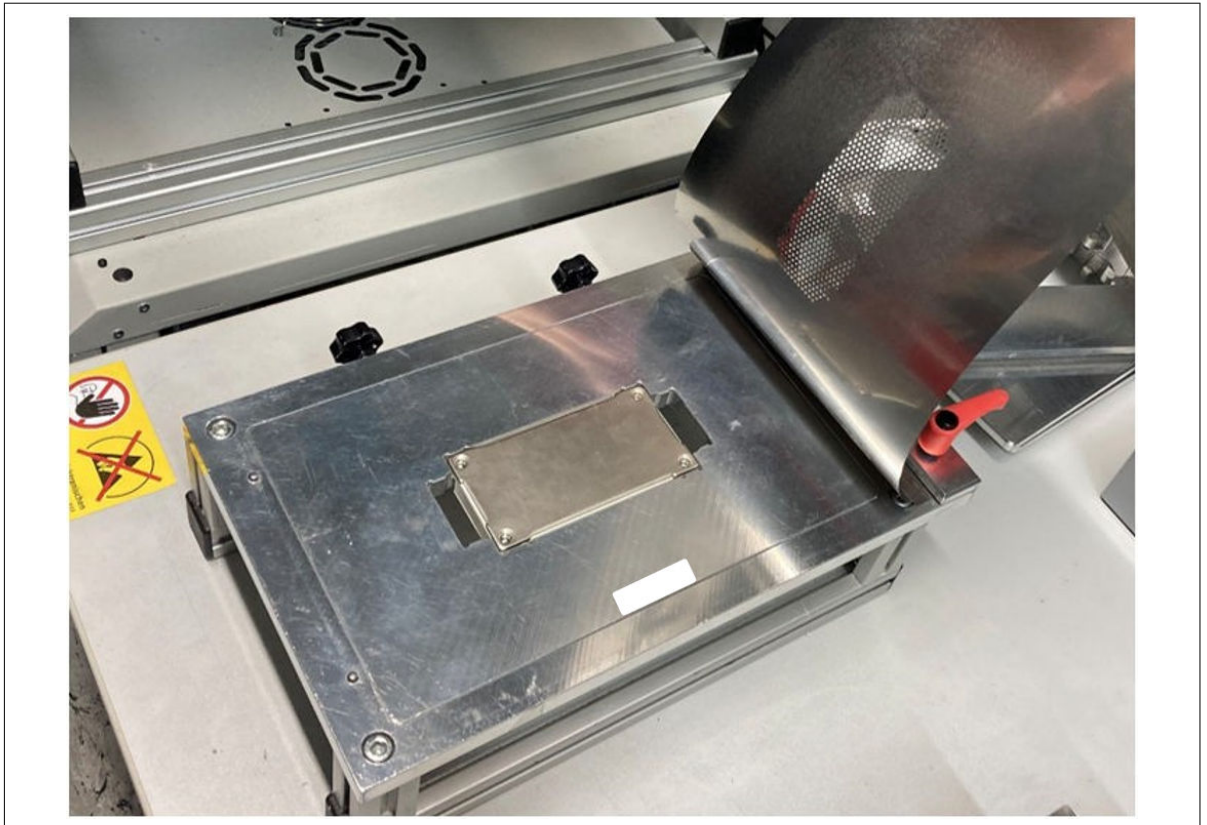

Figure 4 Alignment of the module
2. To align the template and module, insert the module into the corresponding holding fixture and hold it in position. Next, align the baseplate, on which the thermal compound is to be applied, upwards, and place the corresponding template on it. The holding fixture is shown in Figure 4.